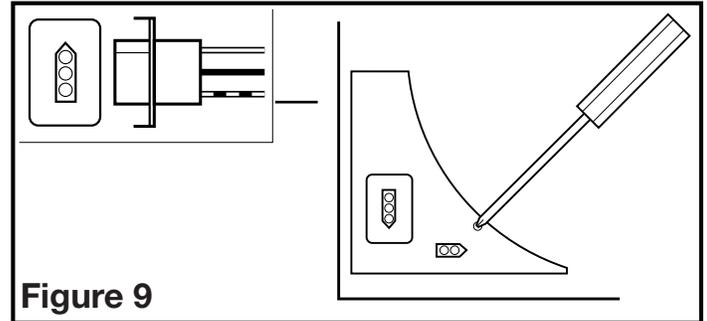

Figure 9
1. Reinstall the fan's wire compartment cover. Rotate the blower wheel by hand to ensure it spins freely. Plug the fan's quick connect motor cord into the receptacle. This cord will only fit one way into the receptacle (**Figure 9**).